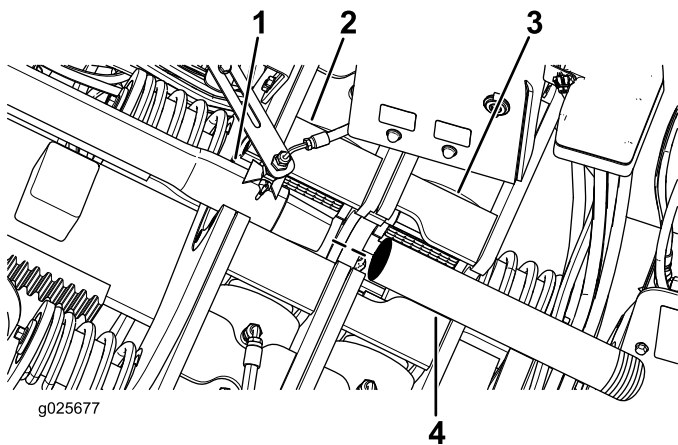

Figure 84
2. Place the lead bar through the lower wrench (stationary wrench) as shown in Figure 84.